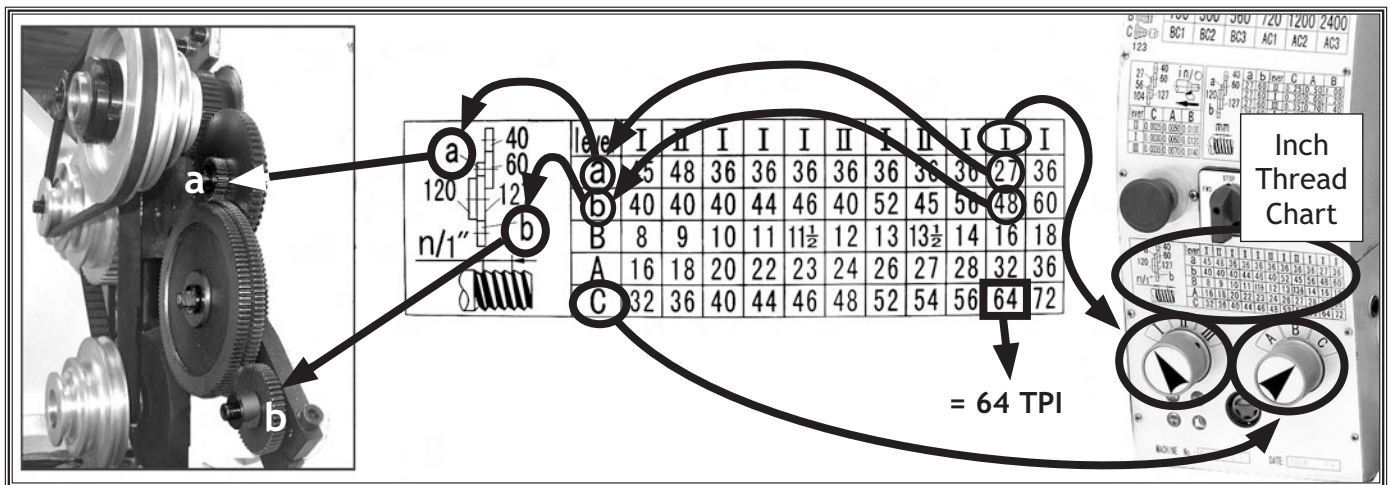

Figure 34. Inch threading setup.
Use these steps to learn how to setup your lathe for inch threading. The example in **Figure 34** shows lathe setup for cutting 64 TPI (Teeth Per/Inch) thread.
2. Turn the feed dials to the numeral and letter indicated by the chart in **Figure 34**.
3. Using the chart in **Figure 34**, gather the required change gears.